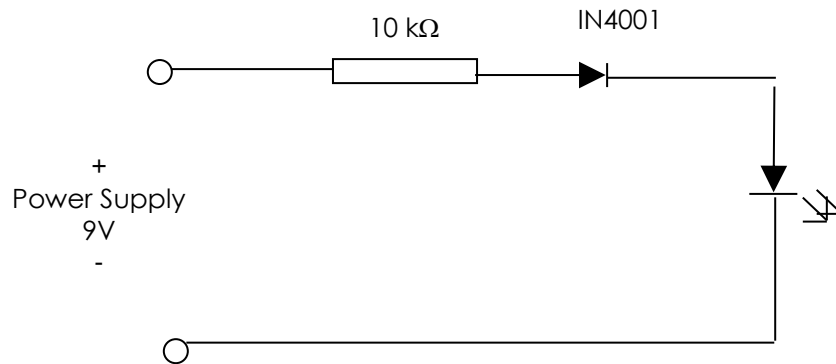

Figure 1.3
1. Connect the circuit as shown in **Figure 1.3**.